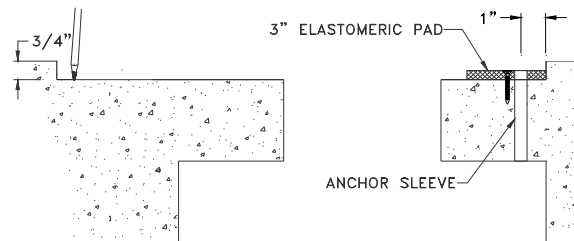

Figure 9
**STEP 17.** Select a representative cover plate and measure its width (straight, plate edge to plate edge). Add one inch to the measured width of the cover plate, and measure that distance from the outside edge of the installed pad across the joint. Make a mark on the substrate at the marked dimension (see Figure 9). Repeat this procedure for each cover plate anchor. Standard anchor spacing is 3 feet o.c.